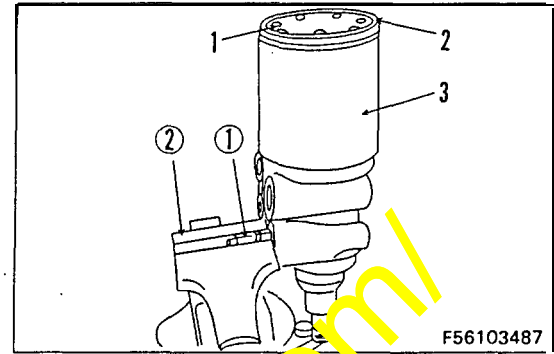

Fig. 9
- 3) Install tube nut ① to one of the ports. (Fig. 9)
- 4) Install in vice ② with the end cover facing up. (Fig. 9)
- 5) Remove 7 mounting bolts (1), then insert screwdriver between end cover assembly (2) and sleeve (3), and remove the end cover assembly. (Fig. 9)